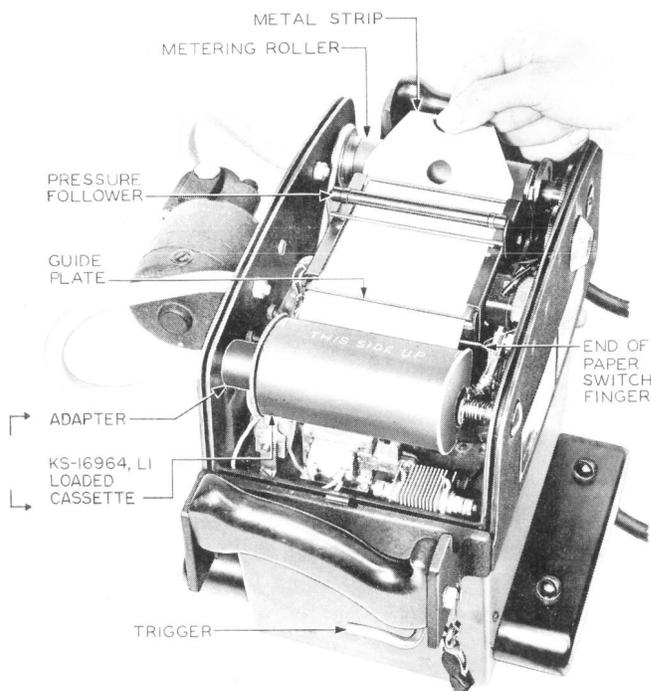

Fig. 7 – Loading Camera
1.19 In order to use the KS-16964 L1 loaded cassette, it is necessary that the camera be equipped with an adapter which is mounted on the fixed pin at the trigger side of the camera as shown in Fig. 7. A locating pin on this adapter enters a corresponding hole in the end of the cassette to hold the cassette in the proper position during withdrawal of the paper. Procedures for mounting the adapter are covered in Section 030-301-801. KS-16148 loaded cassettes may also be used in a camera equipped with the adapter.
4.08 Draw paper from the loaded cassette over the end-of-paper switch finger and under the guide plate, as shown in Fig. 7. Draw the end of the paper about 10 inches beyond the metering roller. Lower the pressure follower to its position holding the paper against the metering roller.